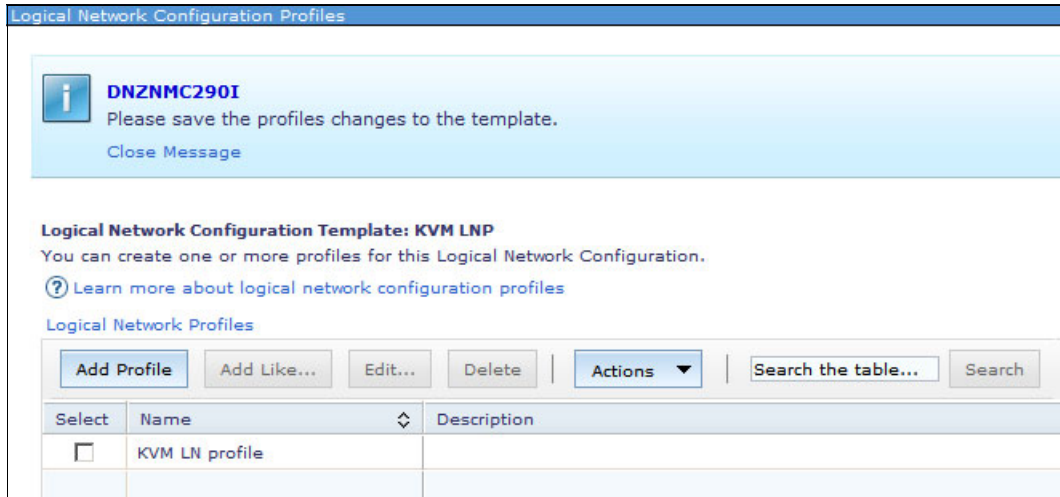

Figure 9-75 Saving configuration template
- The newly created profile is displayed in the Template Configuration window, as shown in Figure 9-75 on page 358. If you need to configure more logical network profiles in the configuration template, repeat steps 4 - 10. Click **Save Template**.